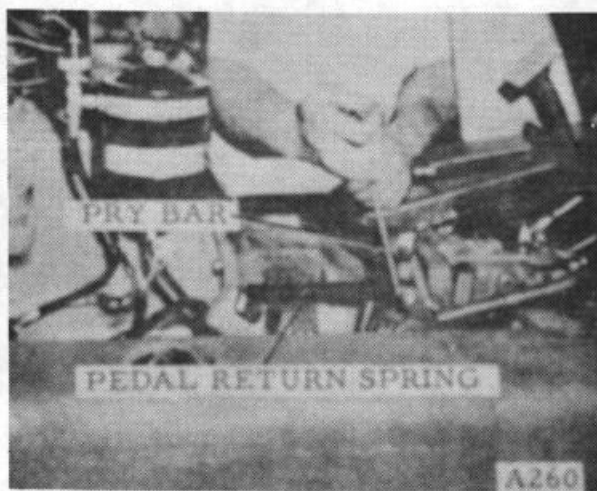

Figure 5.
8. Remove the foot pedal return springs, at the foot pedals. (Fig. 5) Index mark the torque converter and flywheel. Remove the converter mounting capscrews from the engine flywheel through the access holes located on the top of the converter housing. Remove the